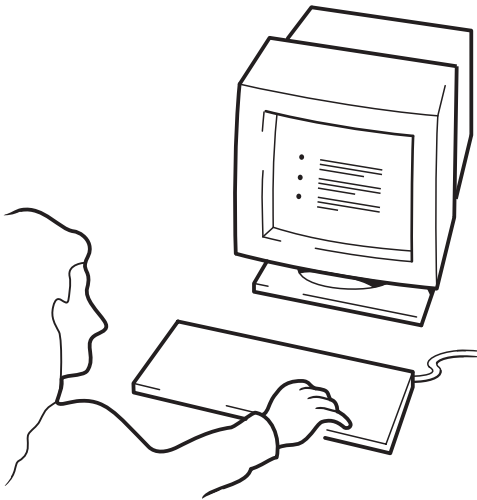

Figure 10c: using HP OBDR, step 3
- 3 Follow the on-screen instructions to set up the operating system (see Figure 10c). These will vary depending upon the backup software. Normally, you can accept the default response to all the prompts, for example, just press <Enter>.